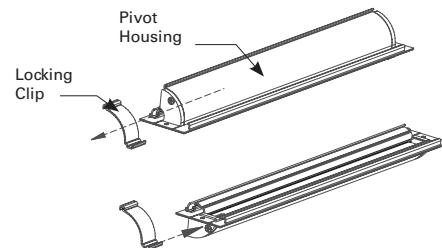

Figure 6
8. If the fixture is to be wall mounted, first, loosen the set screw on the back of the pivot housing. Then remove the locking clip by sliding it to the end of the pivot housing (See Figure 6). Rotate the pivot housing 90 degrees, and then replace the locking clip. Tighten the set screw.
- If the fixture is to be wall mounted, first, loosen the set screw on the back of the pivot housing. Then remove the locking clip by sliding it to the end of the pivot housing (See Figure 6). Rotate the pivot housing 90 degrees, and then replace the locking clip. Tighten the set screw.